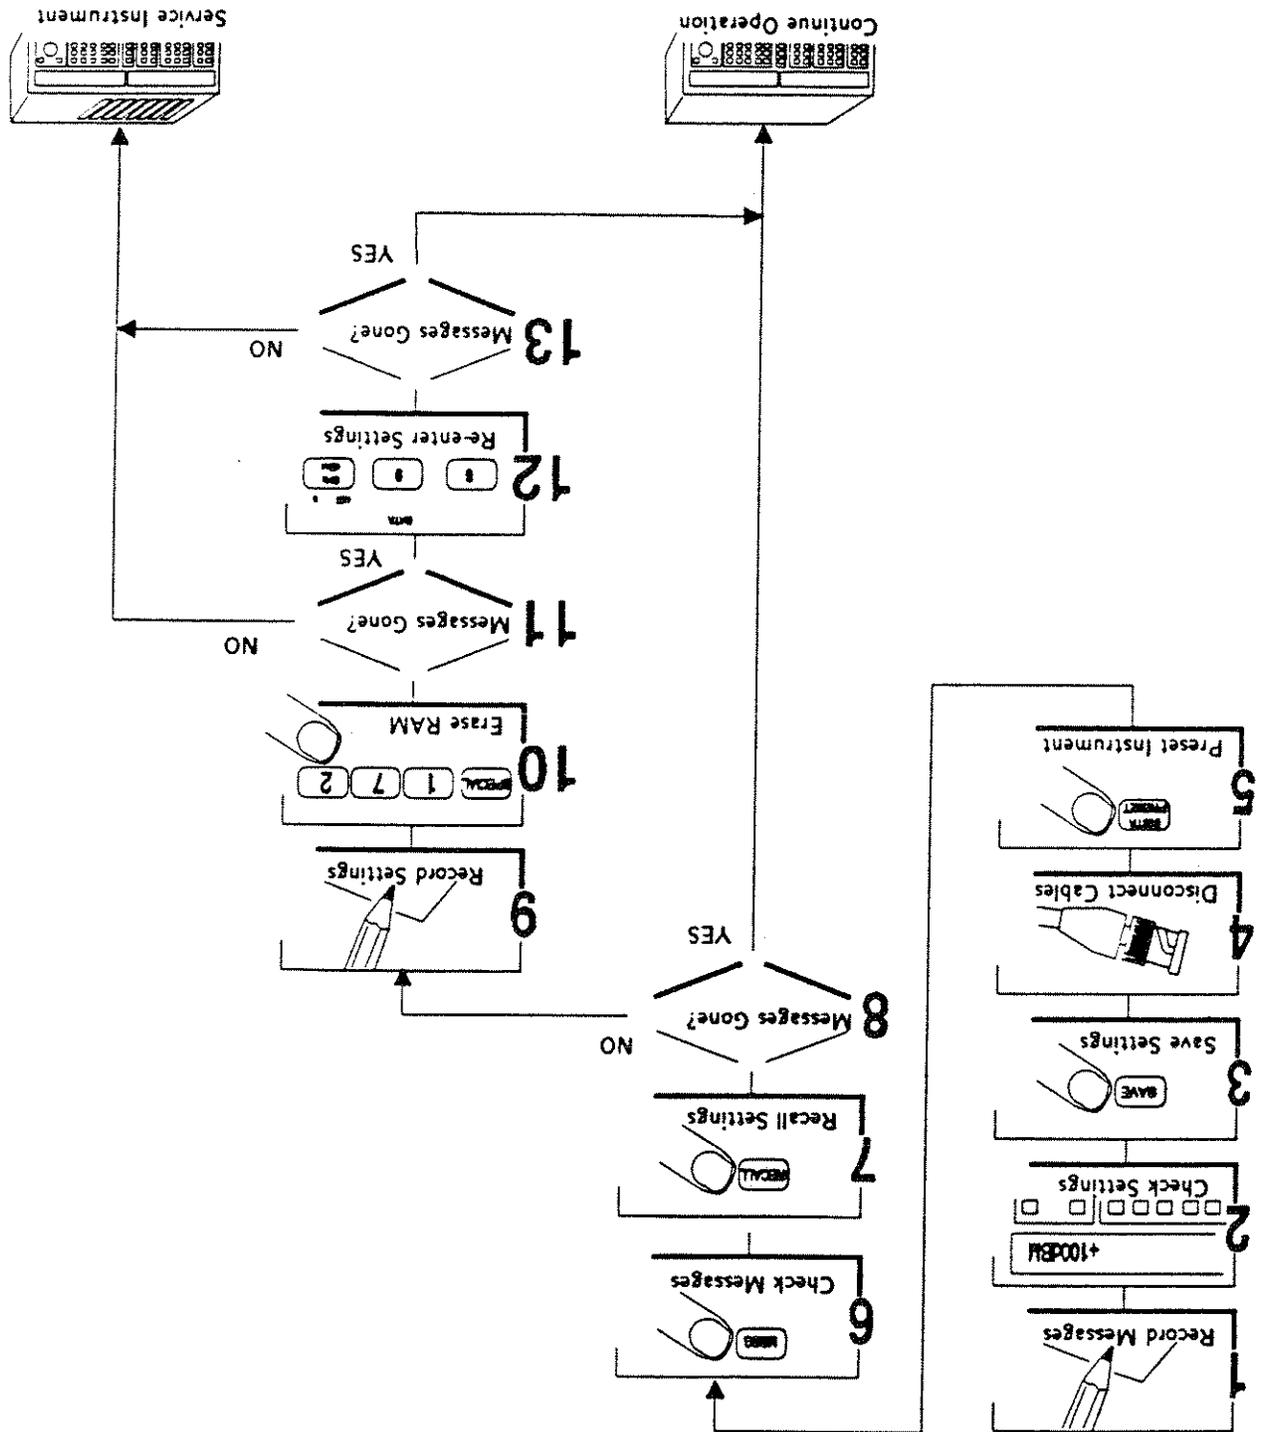

Figure D-1. Corrective Action for Error Messages
Hardware Failure 1	A communications discriminator failure has been detected at power up, or detected as a result of a self-calibration or self-test. Refer to figure D-1 for corrective action.
Hardware Failure 2	A VCO failure has been detected at power up, or detected as a result of a self-calibration or self-test. Refer to figure D-1 for corrective action.
Hardware Failure 3	A Fractional-N failure has been detected at power up, or detected as a result of a self-calibration or self-test. Refer to figure D-1 for corrective action.
Hardware Failure 4	A modulation distribution failure has been detected at power up, or detected as a result of a self-calibration or self-test. Refer to figure D-1 for corrective action.
Hardware Failure 5	An ALC failure has been detected at power up, or detected as a result of a self-calibration or self-test. Refer to figure D-1 for corrective action.
Hardware Failure 6	An attenuator failure has been detected at power up, or detected as a result of a self-calibration or self-test. Refer to figure D-1 for corrective action.
Hardware Failure 7	An audio source failure has been detected at power up, or detected as a result of a self-calibration or self-test. Refer to figure D-1 for corrective action.
Hardware Failure 8	A reference failure has been detected at power up, or detected as a result of a self-calibration or self-test. Refer to figure D-1 for corrective action.
Hardware Failure 9	A doubler failure has been detected at power up, or detected as a result of a self-calibration or self-test. Refer to figure D-1 for corrective action.
Hardware Failure 13	A front panel failure has been detected at power up, or detected as a result of a self-calibration or self-test. Refer to figure D-1 for corrective action.
Hardware Failure 14	A power supply failure has been detected at power up, or detected as a result of a self-calibration or self-test. Refer to figure D-1 for corrective action.
Hardware Failure 15	An I/O board failure has been detected at power up, or detected as a result of a self-calibration or self-test. Refer to figure D-1 for corrective action.
A controller failure has been detected at power up, or detected as a result of a self-calibration or self-test. Refer to figure D-1 for corrective action.	Hardware Failure 16
A frequency counter failure has been detected at power up. Refer to figure D-1 for corrective action.	Hardware Failure 18
A communications discriminator out-of-lock (OOL) condition exists. Refer to figure D-1 for corrective action.	Hardware Failure 21
A Fractional-N (NF) phase-locked-loop (PLL) out-of-lock (OOL) condition exists. Refer to figure D-1 for corrective action.	Hardware Failure 23
A VCO frequency-locked-loop (FLL) out-of-lock (OOL) condition exists. Refer to figure D-1 for corrective action.	Hardware Failure 24
A VCO phase-locked-loop (PLL) out-of-lock (OOL) condition exists. Refer to figure D-1 for corrective action.	Hardware Failure 25
A fast controller failure has been detected at power up, or detected as a result of a self-calibration or self-test. Refer to figure D-1 for corrective action.	Hardware Failure 26
An audio source out-of-lock (OOL) condition exists. Refer to figure D-1 for corrective action.	Hardware Failure 27
A reference out-of-lock (OOL) condition exists. Refer to figure D-1 for corrective action.	Hardware Failure 28
A ROM failure has been detected at power up, or detected as a result of a self-calibration or self-test. Refer to figure D-1 for corrective action.	Hardware Failure 31
A ROM failure has been detected at power up, or detected as a result of a self-calibration or self-test. Refer to figure D-1 for corrective action.	Hardware Failure 32
A ROM failure has been detected at power up, or detected as a result of a self-calibration or self-test. Refer to figure D-1 for corrective action.	Hardware Failure 33
<p>Hardware Failure 34</p> <p>Hardware Failure 35</p> <p>Hardware Failure 36</p>	<p>A ROM failure has been detected at power up, or detected as a result of a self-calibration or self-test. Refer to figure D-1 for corrective action.</p> <p>A voltmeter failure has been detected at power up, or detected as a result of a self-calibration or self-test. Refer to figure D-1 for corrective action.</p> <p>A RAM failure has been detected at power up, or detected as a result of a self-calibration or self-test. Refer to figure D-1 for corrective action.</p>
<p>Calibration Error 1</p> <p>Calibration Error 2</p> <p>Calibration Error 3</p>	<p>A condition occurred where invalid level calibration data resides in either the Output or the Attenuator modules. Follow the external calibration procedures outlined in figure D-1.</p> <p>At some time during the calibration or self-test, a condition occurred where some hardware was unable to be calibrated. Fix the hardware and re-calibrate. Refer to figure D-1 for corrective action. This error message will always be accompanied by other error messages.</p> <p>A sensor indicates that inside temperature has varied <math>\pm 10^\circ</math> Centigrade (<math>\pm 18^\circ</math> Fahrenheit) from where the temperature was when the instrument was last calibrated. A re-calibration by activating Special Function 171 may be necessary for the instrument to maintain its specifications.</p>
<p>User Memory Cleared</p> <p>Reverse power detected</p>	<p>A memory failure has been detected, all battery backup memory is lost. Refer to figure D-1 for corrective action.</p> <p>A reverse power condition was detected at the RF Output. (Disconnect the affected output from any external equipment and re-enter the key sequence that originally resulted in the error. If an error is still detected by the instrument, a reverse power problem still exists.)</p>
A transient reference out-of-lock (OOL) condition occurred. Refer to figure D-1 for corrective action.	Transient Error 8
A transient doubler out-of-lock (OOL) condition occurred. Refer to figure D-1 for corrective action.	Transient Error 9